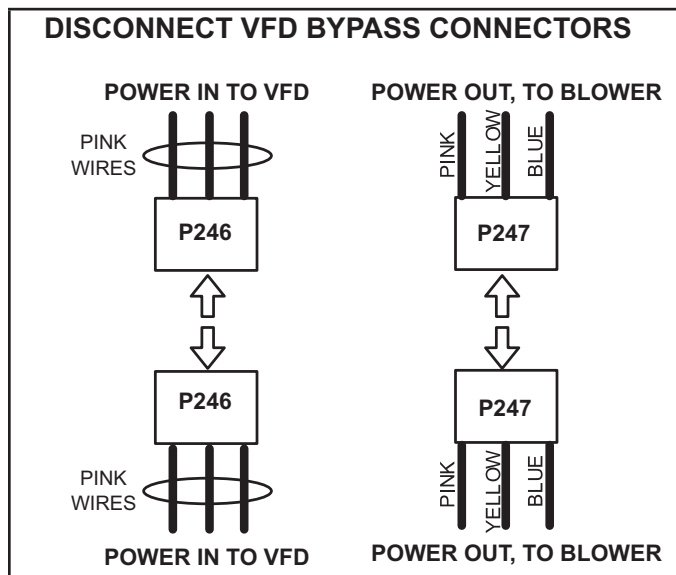

FIGURE 46
- 3 - Disconnect P246 from P246 (power in to VFD) and P247 from P247 (power out to blower). See FIGURE 46.